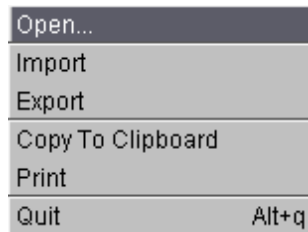
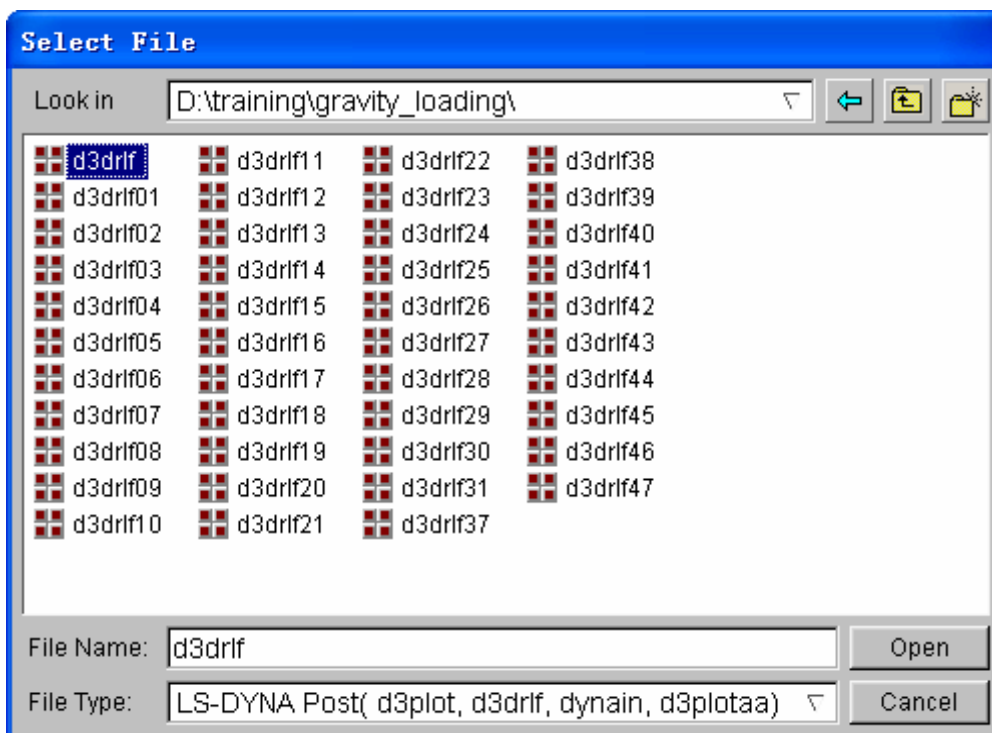

Figure 4.31 File menu
Figure 4.32 Open file dialog box
1. From the **File** menu of **eta/POST**, select **Open** function illustrated in Figure 4.31. The Open File dialog box illustrated in Figure 4.32 is displayed.
3. Choose the directory of the result files. Pick the **d3drif** file illustrated in Figure 4.32, and press **Open** button.